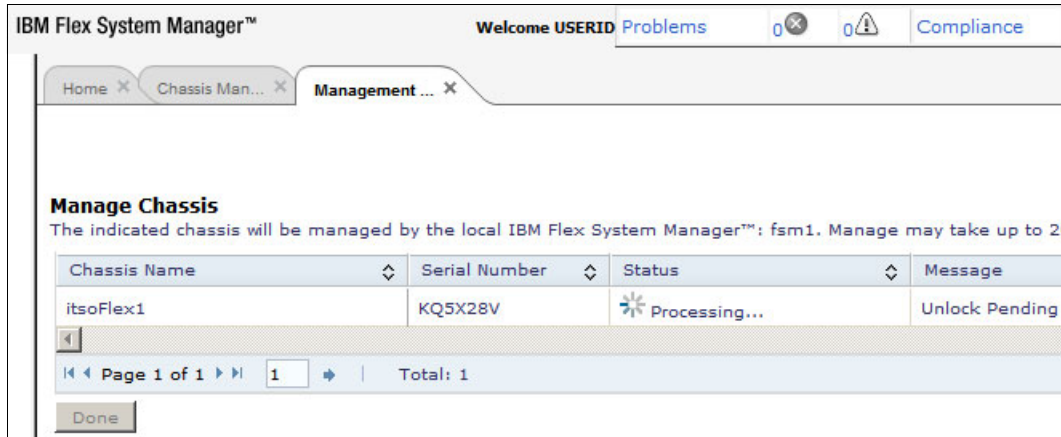

Figure 6-26 FSM manage chassis process
4. FSM begins to establish management relationships with the selected chassis as shown in Figure 6-26. In the Message column, FSM displays the current phase of the process.